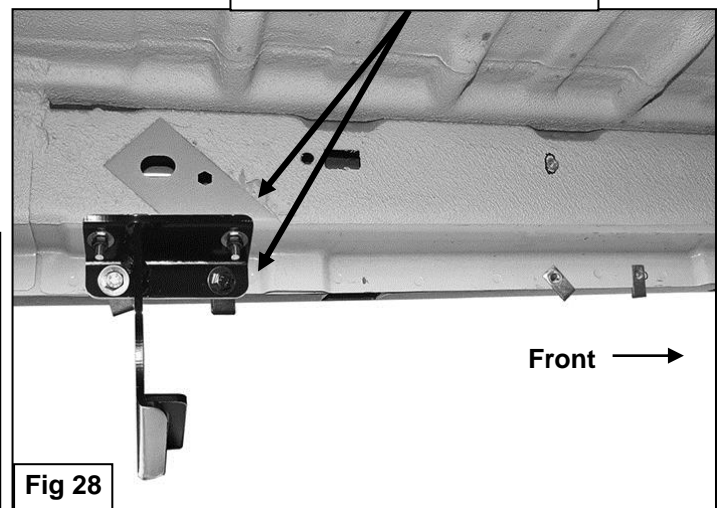

Fig 28
17. Drill (2) 7/16" holes through the bottom of the body panel as marked, **(Figure 27)**. Next, repeat **Step 5** to drill through the pinch weld to attach the bottom of the Bracket. Insert (1) 8mm Long U-Bolt into and through the (2) drilled 7/16" holes. Select (1) Passenger side Bracket. Attach the top slots on the Bracket to the U-Bolt with (2) 8mm Flat Washers, (2) 8mm Lock Washers and (2) 8mm Hex Nuts, **(Figure 28)**. Repeat **Step 6** to drill and attach the bottom of the Bracket to the back of the pinch weld. Leave all hardware loose at this time.
18. Select the driver side Running Board. Place the Running Board on top of the (2) Brackets. Select (2) 6mm Double Bolt Plates. Repeat Steps 10 & 11 to attach the Running Board to the (2) Brackets.